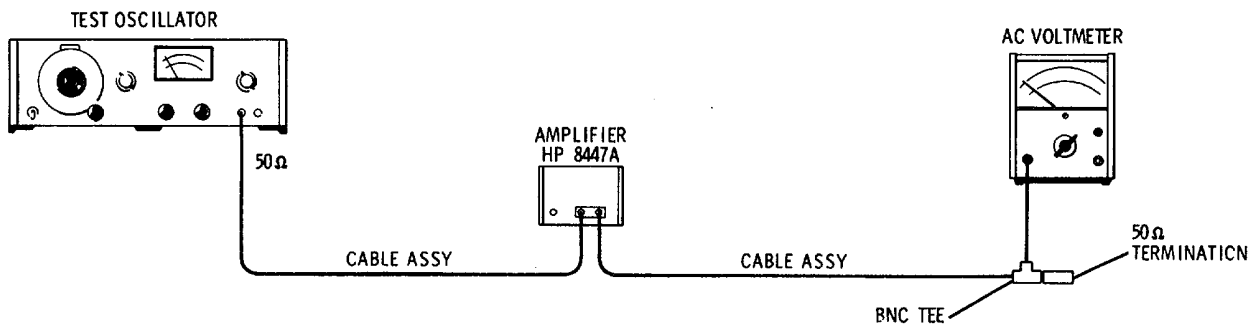

Figure 4-2. Flatness Test Setup: 100 kHz to 1 MHz
9. Connect the test setup as shown in Figure 4-2. Set the Model 400E to the -20 dB range and adjust the Model 651B output at 1 MHz to obtain the same relative reading from 0 dB on the Model 400E as in measured in step 8. Note the level variation on the Model 400E as the Model 651B frequency is tuned from 1 MHz to 100 kHz.